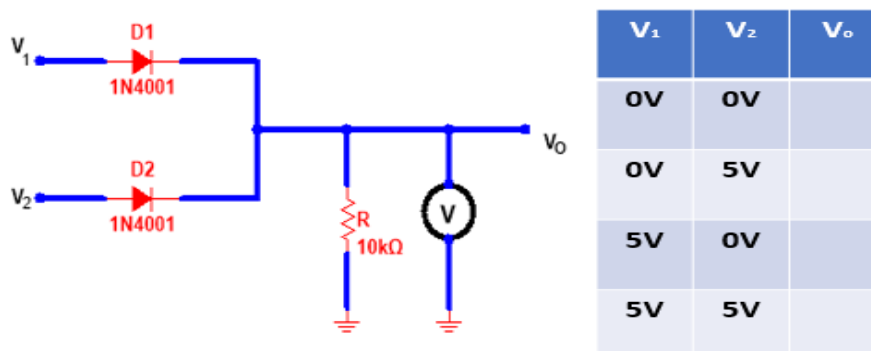

Figure 12: Practical OR Gate circuit
1. Connect the OR gate circuit shown in Fig.12 and verify its operation.
1. Determine the current flowing in each diode in the practical OR logic circuit of Fig.12 when both inputs are HIGH (5V).